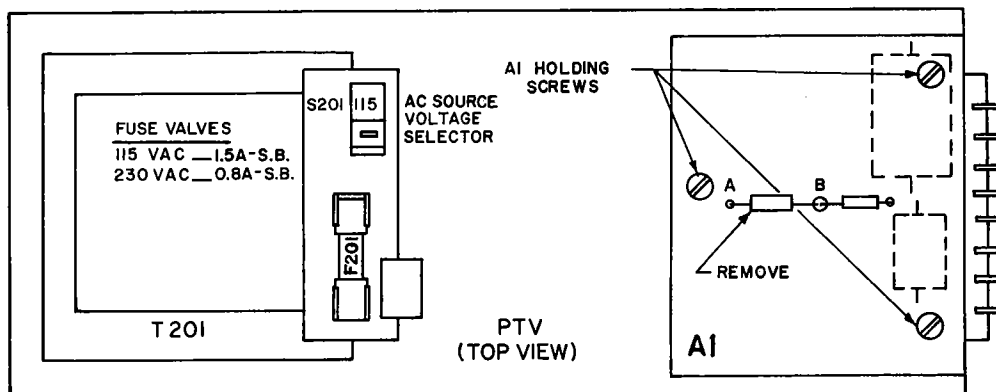

FIG. 2-2 CONVERSION TO 230V a-c OPERATION AND LOCATION OF INTERNAL SIGNAL GROUND.
2-7 This power supply is normally shipped for operation from a nominal 115V a-c source, 60 Hz single phase. The power supply can be quickly converted for 230V a-c source operation by changing the provided selector switch (S201) is located directly on the power transformer (T201) (refer to FIG. 2-2). For 230V a-c operation, the fuse for 115V a-c operation (F201) must be replaced by one with half the 115V rating. (See FIG. 2-2 for fuse values).
- 2-9 a) **SAFETY GROUND.** For safety reasons, it is important that the metal chassis of the PTR Power Supply be connected to an a-c ground. If a 3-wire line cord and a properly grounded outlet are used, the grounding is automatically accomplished. If only a 2-wire line cord is used, the metal chassis of the power supply must be grounded separately by returning barrier-strip terminal (3) to an a-c ground.
- b) **SYSTEM GROUND.** The d-c output terminals of the PTR Power Supplies are isolated from the a-c power line and from the chassis, except for a capacitor/resistor series connection from the negative (-) output to chassis. Since no d-c connection exists to the chassis, either side of the power supply may be grounded. A maximum of 500V (d-c or p-p) can be connected between chassis and either output terminal. If the provided internal capacitor/resistor connection from (-) output to chassis is not desired, and the positive side of the PTR is to be grounded, the system ground may be established outside the power supply by removing the jumper (A)-(B) as shown in FIG. 2-2.
- 2) Refer to FIG. 2-2. Remove (3) holding screws for assembly (A1) and lift assembly to the side.
- 3) Clip or unsolder wire jumper between terminals (A) and (B). Remount assembly (A1) and fasten. Remount PTR cover.